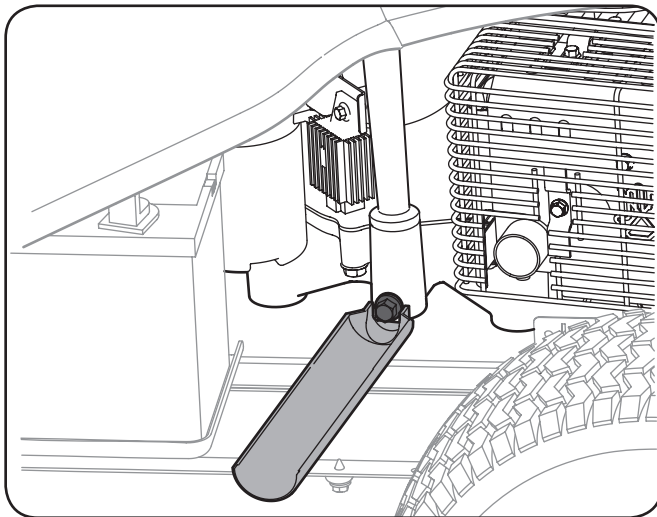

Figure 6-1
4. Snap the small end of oil drain sleeve onto the space provided around the oil drain plug, pressing the sleeve on until the internal rib rests against the engine. See Fig. 6-1.